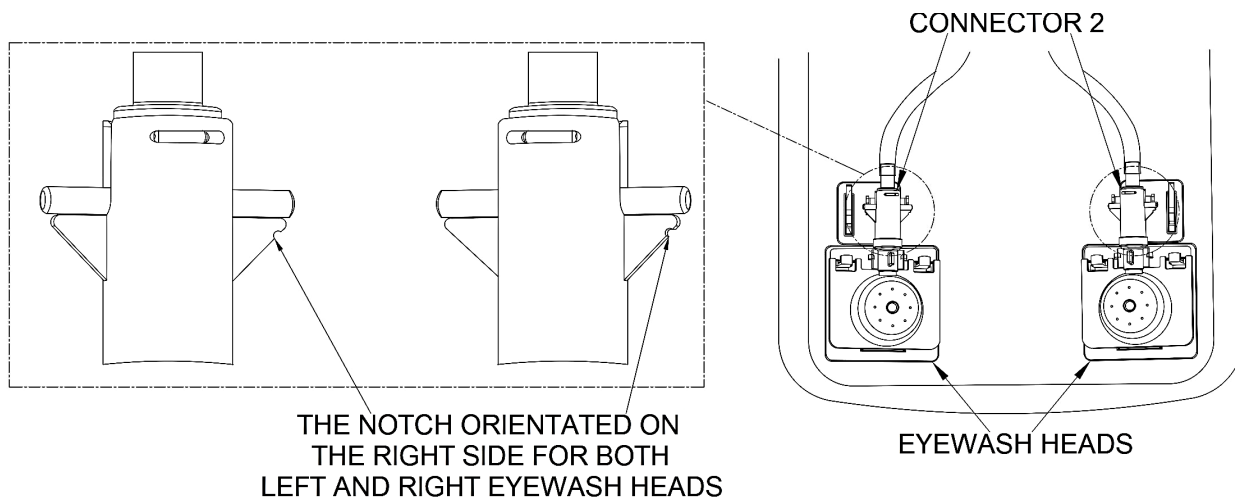

FIGURE 10
- C. After securing the Cartridge tube within the Tube Clamp, verify the notch of both left and right connector 2's are orientated on the right-hand side of the nozzle assembly **(Figure 10)**. If the notch of connector 2 is not on the right side of both eyewash heads perform the following steps: